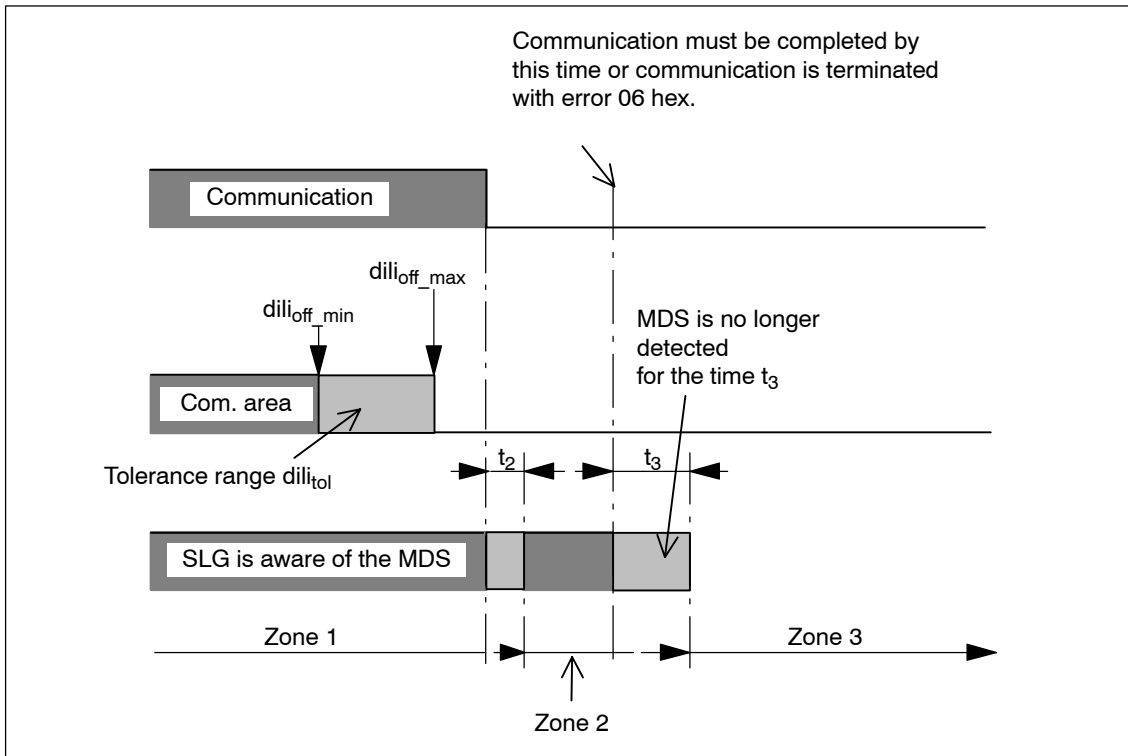

Figure 3-11 Exit from zone 1 (outside the range limit)
- d) The MDS exits the SLG's field after crossing the range limit, as in a). Communication is terminated within the field but only once the range limit has been crossed (see Figure 3-11).